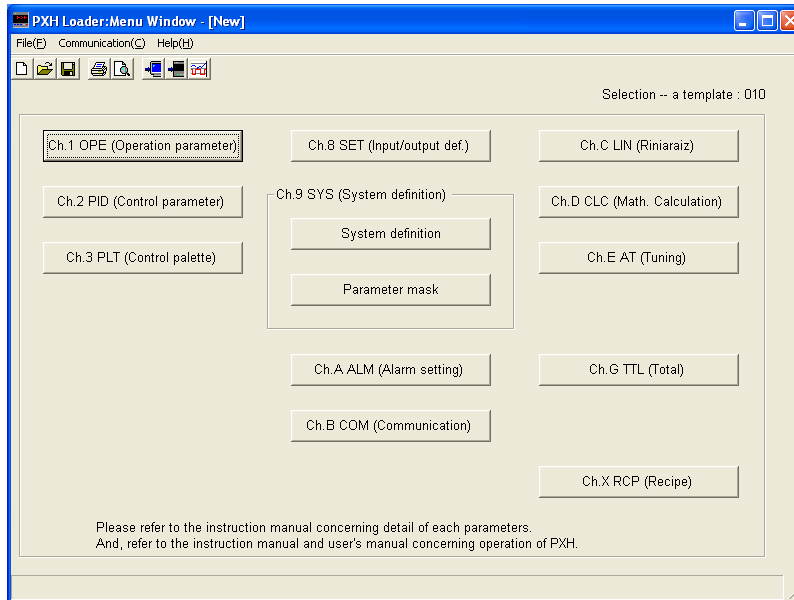
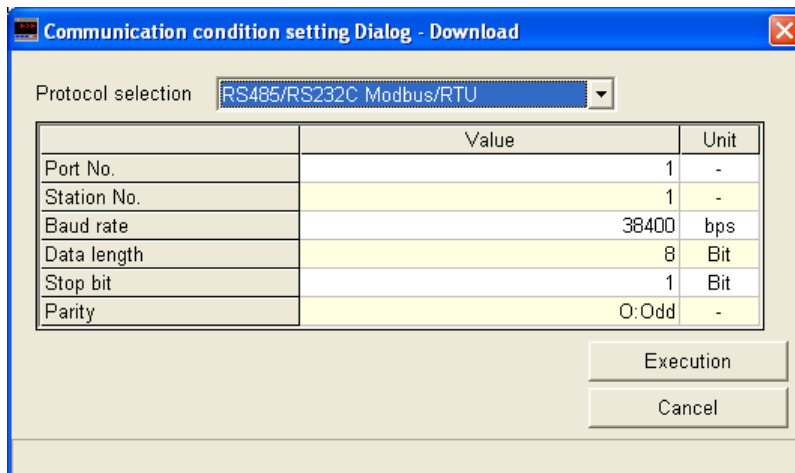
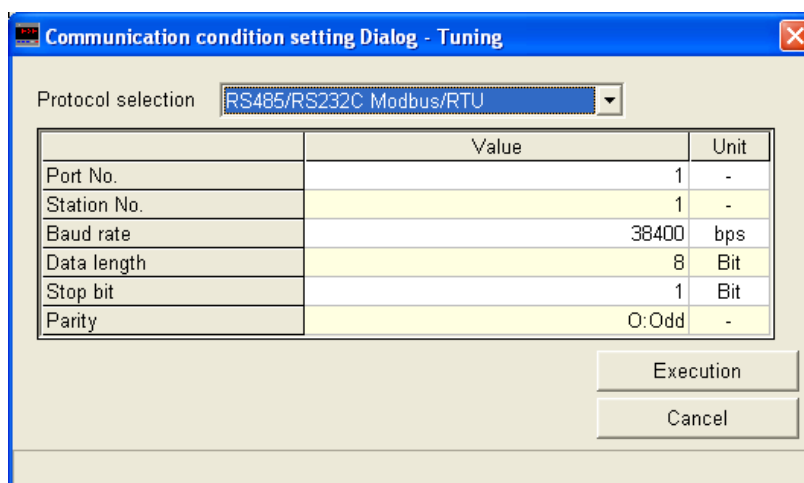

Fig. 7-1 Menu Window
Fig. 9-1 Communication condition setting Dialog
Fig. 11-1 Communication condition setting Dialog
- (4) Clicking on [OK] button displays the Menu Window (Fig. 7-1).
- (2) Select an existing setting file, and click on [Open (O)].
- (3) Operating according to messages downloads parameters saved in the file into the loader, and displays the Menu Window (Fig. 7-1).
- (3) Operating according to messages uploads PXH parameters, and displays the Menu Window (Fig. 7-1).
Menu Window (Fig. 7-1) has functions given below.
Clicking on [Ch. 2 (Control parameters)] button in the Menu Window (Fig. 7-1) displays Ch. 2 Control parameter Setting Dialog below.
Clicking on [Ch. 9 (Parameter mask)] button in the Menu Window (Fig. 7-1) displays Ch. 9 (Parameter mask) list shown below.
Click on [Ch. X (recipe)] in the menu screen (Fig. 7-1), and the following Ch. X (recipe) list window appears.
- (2) On the Menu Window (Fig. 7-1), select menu [Communication (C)]-[Upload (U)]. Making sure of contents on the Communication condition setting Dialog, click on [Execution] button. After parameter settings are uploaded, the Menu Window appears.
- (2) On the Menu Window (Fig. 7-1), select menu [Communication (C)]-[Download (D)] to set the Communication condition setting Dialog (Fig. 9-1), and click on [Execution] button.
After the end of downloading according to messages, the Menu Window (Fig. 7-1) appears.
Select [File (F)] → [Save (S)/Save As (A)] on Menu Window (Fig. 7-1), parameter settings can be saved in file.
On the Menu Window (Fig. 7-1), select menu [Communication (C)] → [Tuning (T)] to set the Communication condition setting Dialog (Fig. 11-1), and click on [Execution] button.
A parameter list will be printed by Menu Window (Fig. 7-1) [File (F)] → [Print (P)].
This CSV-format file is different from saved on the menu window (Fig. 7-1). Saved files cannot be opened on the parameter loader.